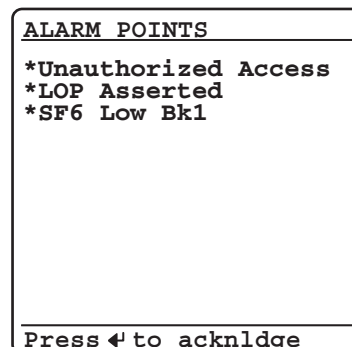

Figure 27 Sample Alarm Points Screen
*Figure 27* shows a sample alarm points screen. The relay can display as many as 66 alarm points. The relay automatically displays new alarm points while in manual-scrolling mode and in autoscrolling mode. You can configure the alarm points message and trigger it either immediately by using inputs, communications, or conditionally by using powerful SELOGIC control equations.